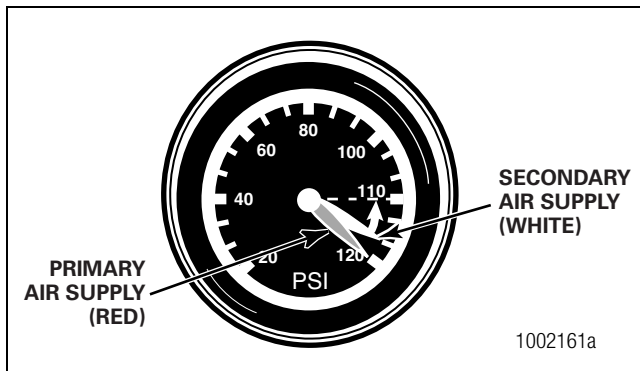

Figure 2.3
1. Check compressor loaded and unloaded cycle. Figure 2.3.